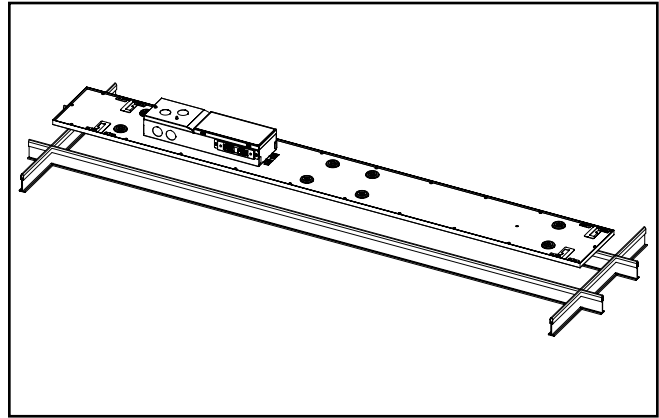

Figure 3.
5. Pass fixture through the grid at an angle and lay fixture into the grid. (Figure 3.)